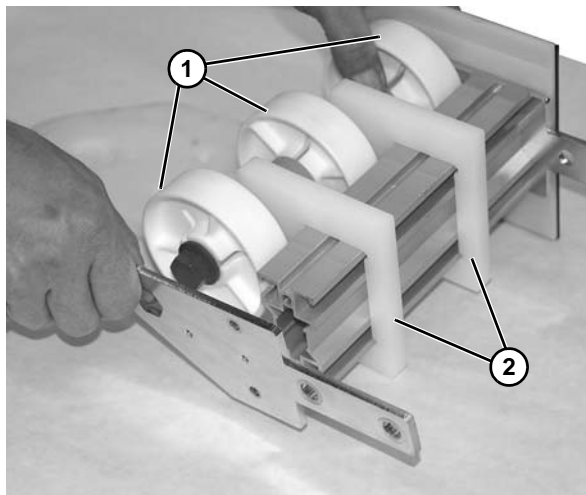

Figure 85
12. Install components reverse of removal, making sure idler pucks (**Figure 85, item 1**) and gap filler plates (**Figure 85, item 2**) are evenly spaced on assembly.